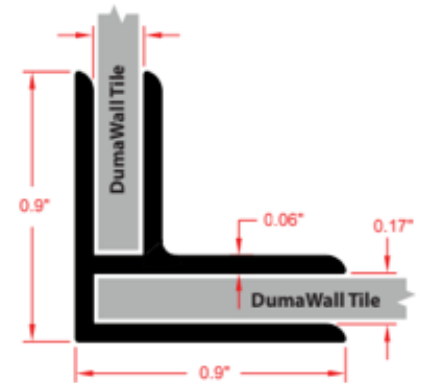

figure 13
9. Install the PVC inner corner trim with adhesive to the substrate. The trim goes on the inside corners of the center wall panel. Install one trim on the first side panel by dispensing a small bead of adhesive directly to the substrate corner or on the trim itself. Apply a bead of sealant into each of the trim's channels to prevent water from reaching the substrate. Next, slide the back panel into the trim's channel. Repeat for the other trim and side panel (see figure 13).